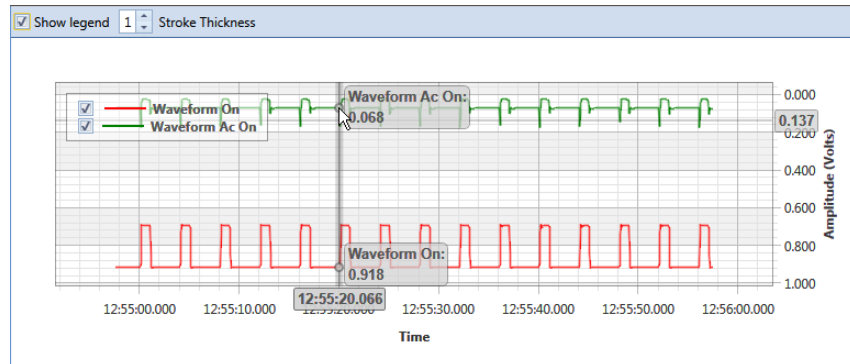

Figure 14-11. Tooltips with ON/OFF Measurements
- *Tooltips with ON/OFF Measurements*: Placing the mouse over a point in the waveform displays tooltips with corresponding ON/OFF voltage measurements (Figure 14-11).